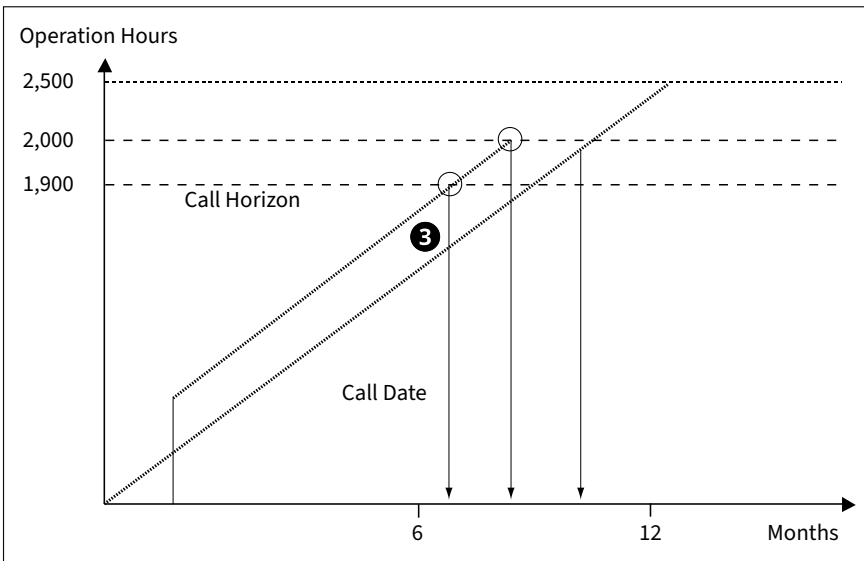

Figure 5.50: Scheduling Based on Counter Reading and Call Horizon
The geometric solution in this case is as follows (see Figure 5.50): The intersection of the measurement document projection line with the line of the call horizon determines the maintenance call date ③.